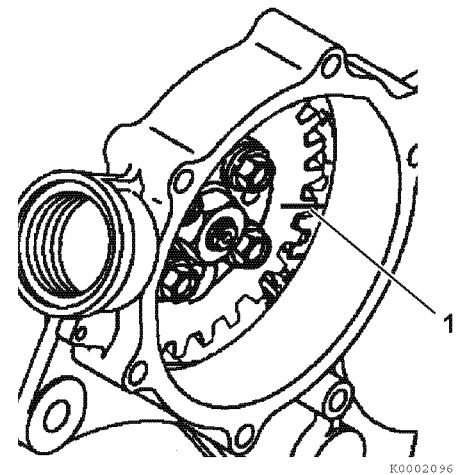

**Figure 7-22**
If installing a new or recalibrated fuel injection pump, locate and record the timing index number located on the pump housing boss on the engine side of the new or recalibrated fuel injection pump (**Figure 7-22, (1)**). This number will be used to calculate and adjust the final fuel injection timing.